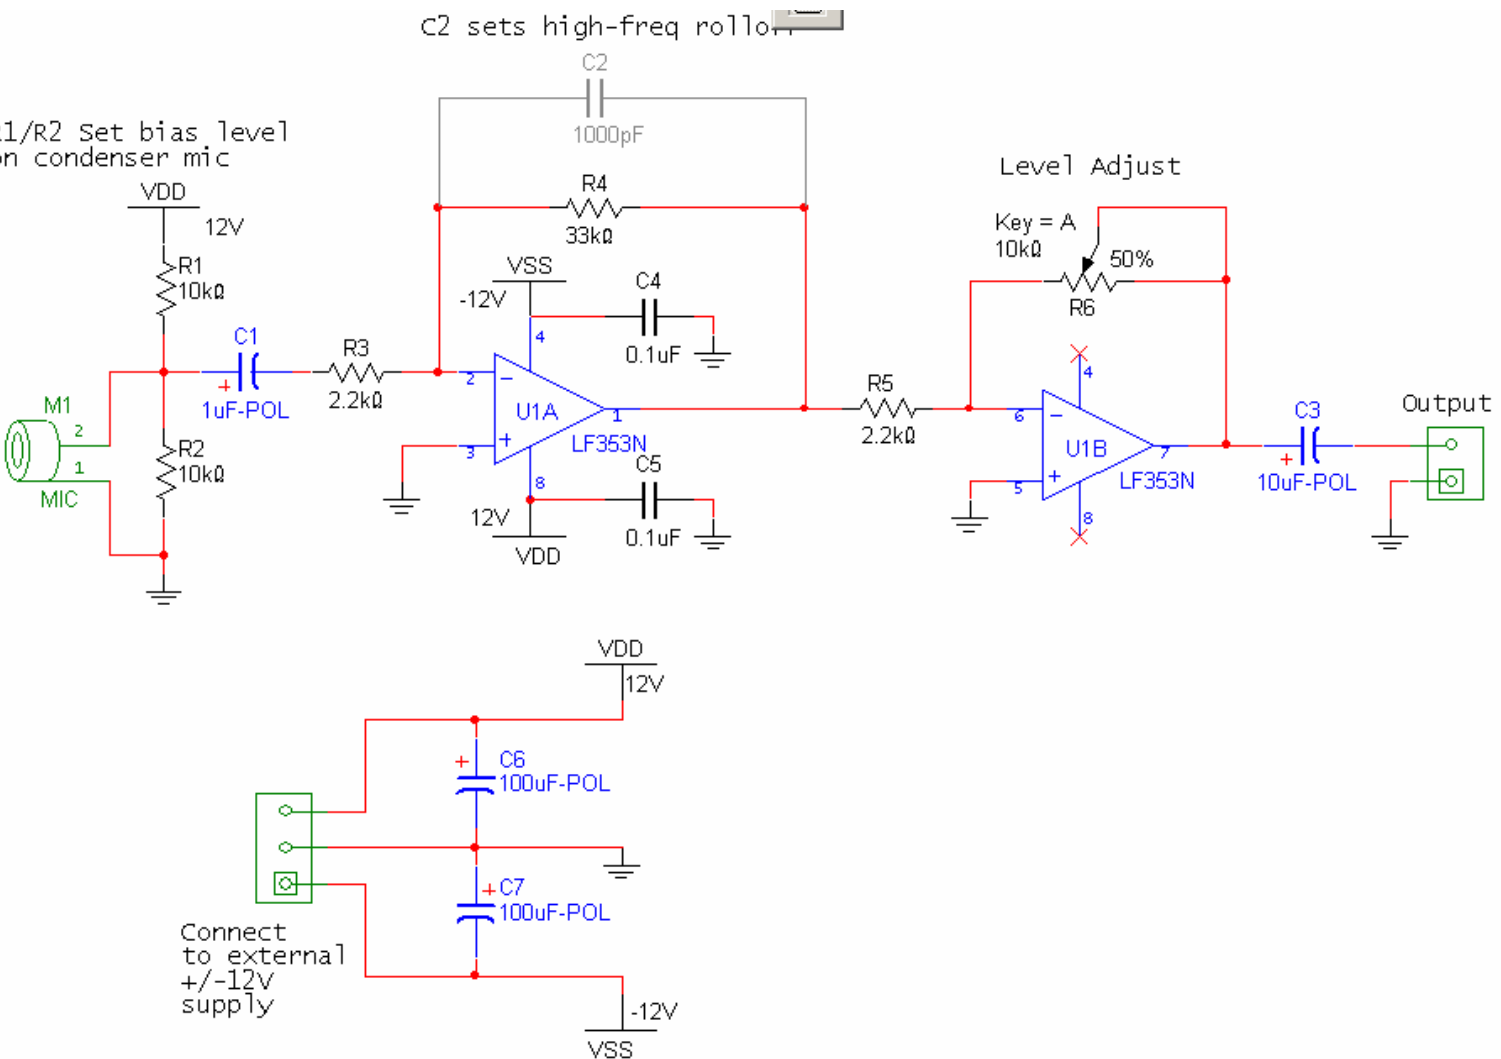

Figure 1-1 – Schematic for the microphone preamplifier.
- With reference to the full schematic in Figure 1-1, calculate the lower cutoff frequency imposed by capacitors C1 and C2 and the resistances in the circuit:
- Configure your solderless breadboard with $\pm 12\text{V}$ and ground connections using the bench power supply. Add the large $100\mu\text{F}$ supply capacitors (C6 and C7) onto your breadboard as shown in the schematic in Figure 1-1.
- Now temporarily add in capacitor C2 (refer to the full schematic in Figure 1-1). This introduces another pole in the system to reduce the high-frequency gain (prelab calculation). Sweep the frequency to determine the resulting upper cutoff frequency, and record this in the lab record along with the voltage gain in the passband (around 1 kHz). Remove C2 when you are finished.
- Add in the remaining circuit elements according to the schematic in Figure 1-1. This last step just adds a simple inverting stage that can amplify or attenuate the signal. This will be helpful later to adjust the microphone signal level for a desired amplitude to drive the AM modulator.